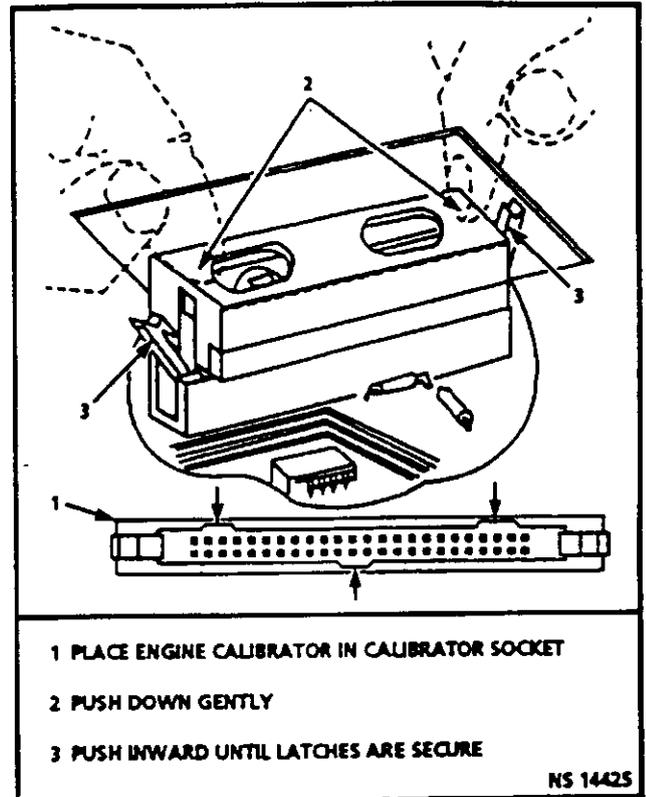

Figure 3.1-5 Engine Calibrator Installation
VERY GENTLY press down on the ends of the engine calibrator until the locking levers are rotated toward the sides of the engine calibrator. (Figure 3.1-5.)
VERY GENTLY press down on the ends of the engine calibrator until the locking levers are rotated toward the sides of the engine calibrator. (Figure 3.1-5).
- If not fully seated, press firmly on engine calibrator assembly. (Figure 3.1-5).